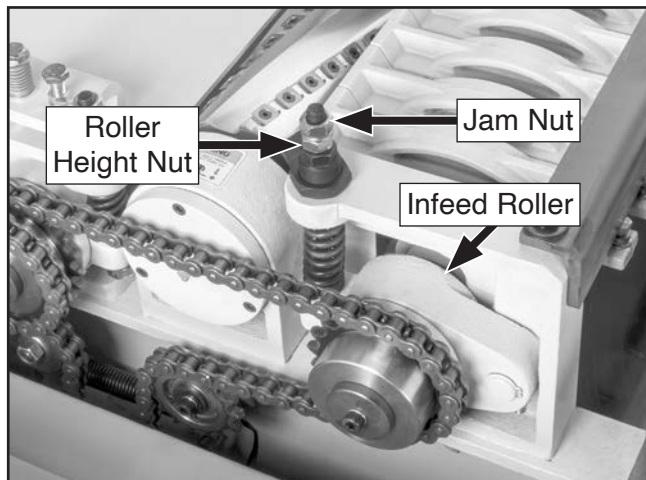

Figure 97. Location of infeed roller adjustments.
7. On left side of machine, loosen jam nut, then tighten or loosen roller height nut (see **Figure 97**) on adjustment stud to adjust infeed roller height so Rotacator/dial indicator reads between 0.10–0.20mm.